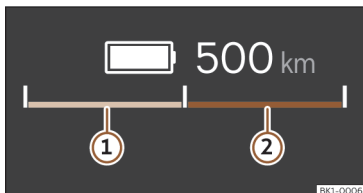

Fig. 4 On the digital instrument cluster: power indicator (schematic representation).
On the bar that is split in half, the power indicator always shows the availability of brake energy recuperation >>> **Fig. 4 ①** (green) on the left hand side and power availability >>> **Fig. 4 ②** (blue) on the right hand side.